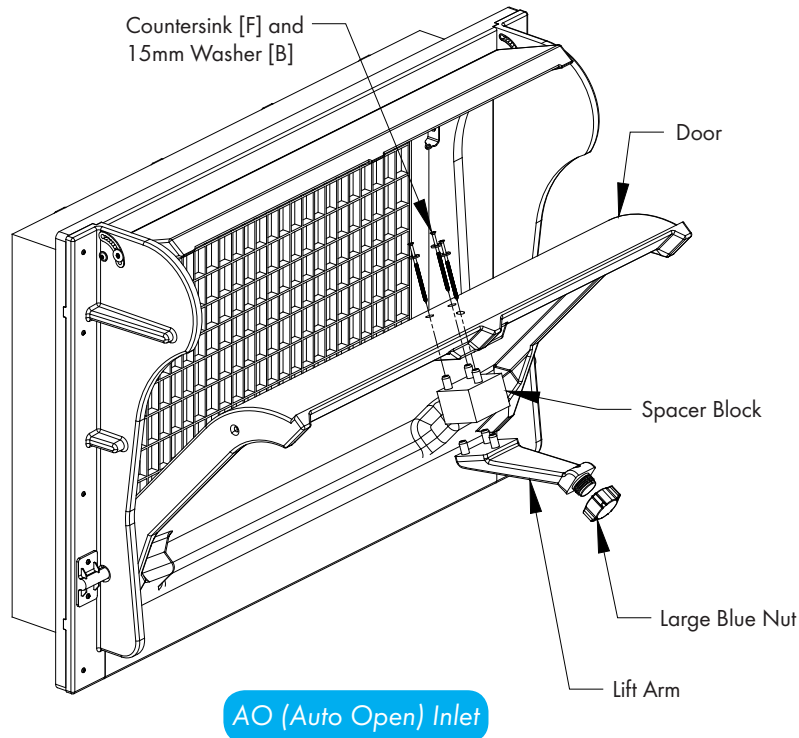

Figure 7A
For the AO (Auto Open) Inlet, thread the large Blue Nut onto Lift Arm and press Lift Arm onto Spacer Block. Attach Lift Arm with Spacer Block to Door using (3) Countersink Screw [F] and 17mm Washer [B]. See Figures 7A. For the AC (Auto Close) Inlet, attach Lift Arm to Door using (3) Countersink Screw [F] and 17mm Washer [B]. See Figures 7B.